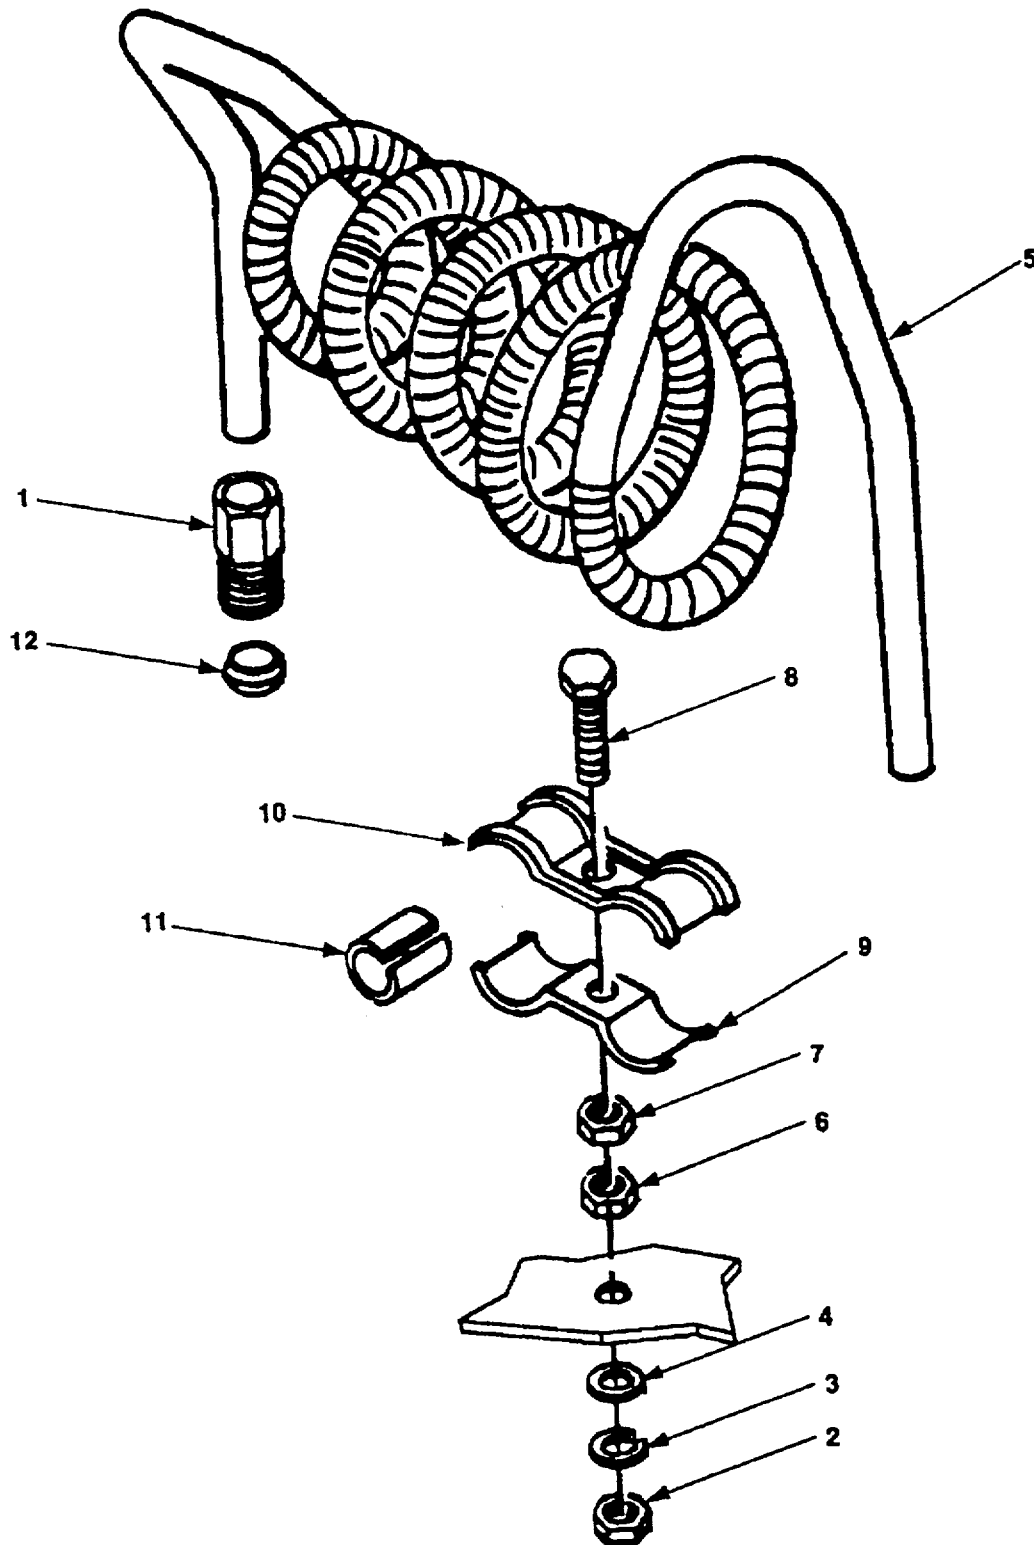

Figure 4-32. Cooling Coil Maintenance (All Except Model 350 PAFN).
- a. Loosen two cooling coil connectors (Figure 4-32,1).
- b. Remove two nuts (2), lockwashers (3) and washers (4).
- c. Lift cooling coil (5) out of engine.
- e. Remove two bolts (8) and separate two bottom clips (9) and two top clips (10) from cooling coil (5).
- f. Remove four rubber sleeves (11).
- a. Position four rubber sleeves (11) around bottom of cooling coil.
- b. Position top two clips (10) and bottom clips (9) over rubber sleeves and secure with bolts (8) and nuts (6 and 7).
- c. If required, slide new connectors (1) and ferrules (12) onto tubing, and position cooling coil (5) in engine.
- d. Install washers (4), lockwashers (3) and nuts (2).